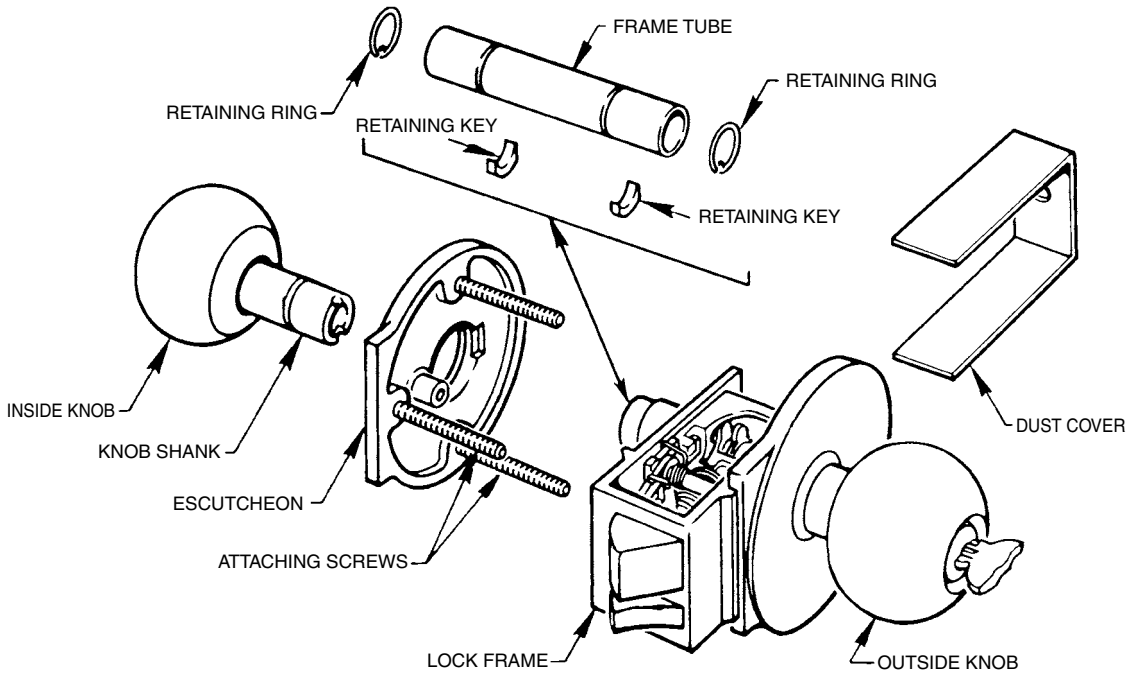

Figure 13.26 Removing attaching screws.
1. Remove the attaching screws (Fig. 13.26).
1. Remove the key from the lock (lock should be unlocked). Remove the three attaching screws (Fig. 13.26).